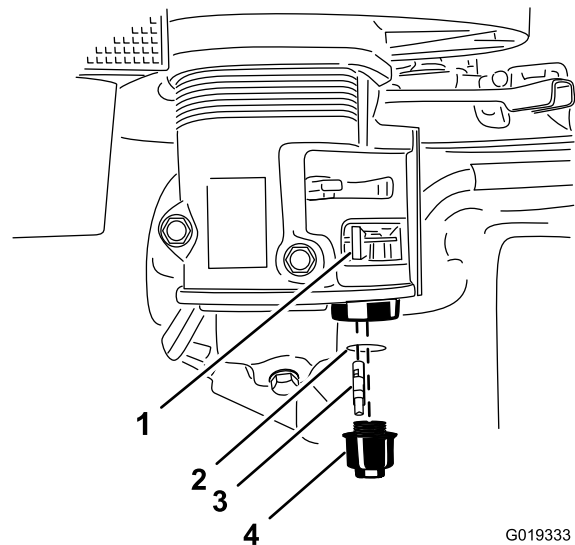

Figure 51
3. Move the lever of the fuel valve to the OFF position, all the way to the left (Figure 51).
4. Unscrew the sediment cup (Figure 51).
5. Remove and retain the fuel filter and O-ring (Figure 51).
8. Install the fuel filter in the bottom of the carburetor (Figure 51).